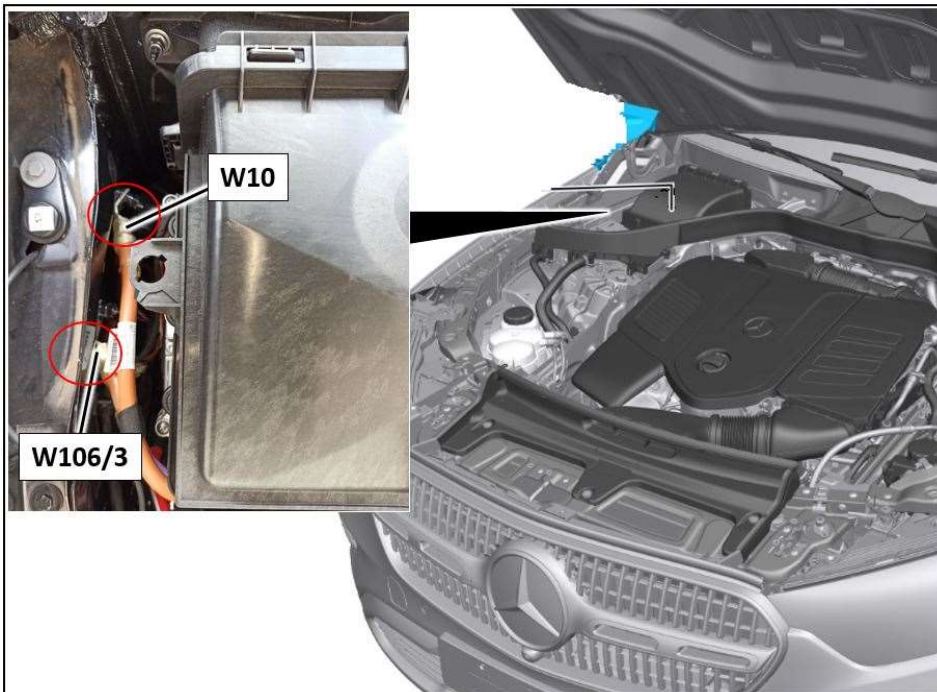

Figure 2
3. Check connections of ground points (Figure 2, W10 & W106/3) for correct tightening torque.